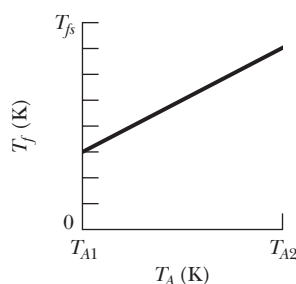

Figure 18-53 Problem 74.
**74** In a series of experiments, block  $B$  is to be placed in a thermally insulated container with block  $A$ , which has the same mass as block  $B$ . In each experiment, block  $B$  is initially at a certain temperature  $T_B$ , but temperature  $T_A$  of block  $A$  is changed from experiment to experiment. Let  $T_f$  represent the final temperature of the two blocks when they reach thermal equilibrium in any of the experiments. Figure 18-53 gives temperature  $T_f$  versus the initial temperature  $T_A$  for a range of possible values of  $T_A$ , from  $T_{A1} = 0 \text{ K}$  to  $T_{A2} = 500 \text{ K}$ . The vertical axis scale is set by  $T_{fs} = 400 \text{ K}$ . What are (a) temperature  $T_B$  and (b) the ratio  $c_B/c_A$  of the specific heats of the blocks?